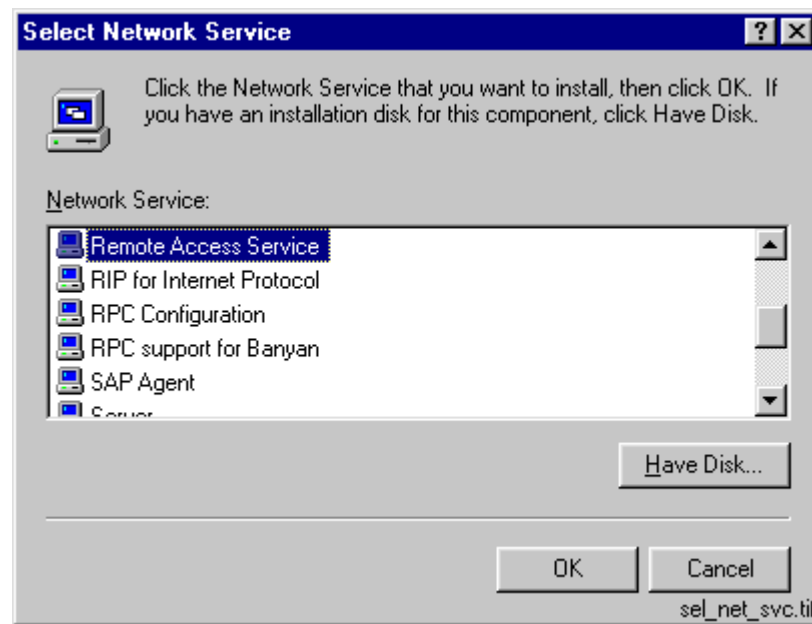

Fig. 5.8.3.-1 The list of network services
2. Select the Services page and click Add to open up the Select Network Service dialog (see Figure 5.8.3.-1).